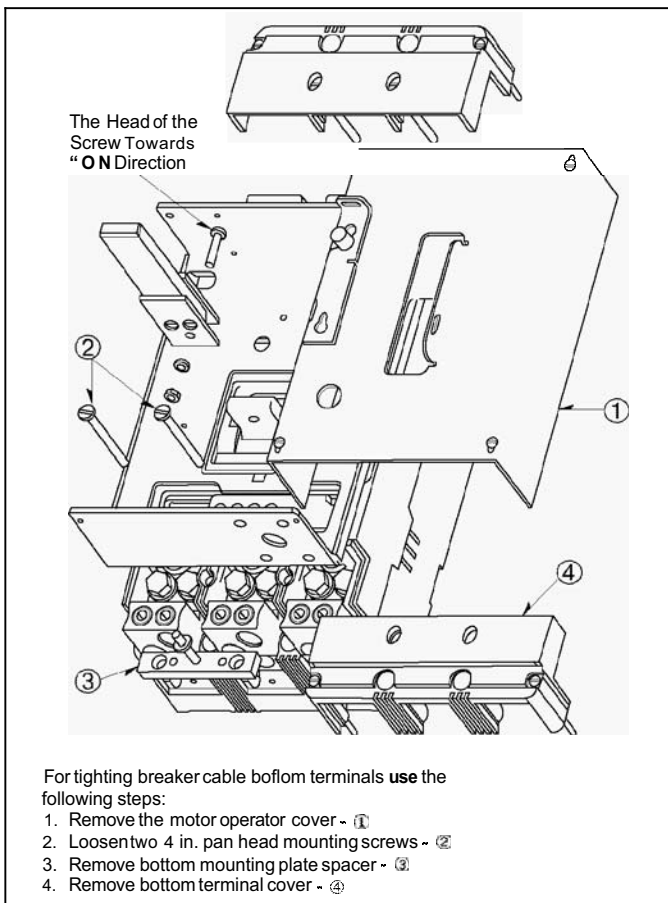

Fig. 2-3. Terminal Tightening Instructions
It is unnecessary to remove a motor operator once installed to gain access to the breaker's cable terminals, Fig. 2-3.
- 2-2. Install circuit breaker handle extension using nuts and screws supplied. (See Fig. 2-3.)
supplied. Put the bottom mounting plate (spacer) between the motor operator and the breaker (Figs. 2-3 (It.03)). The roll pin must be in the base slot and the push nut inside the operator. Use two 4-in. pan head screws. The handle extension must be between the rollers of the bracket assembly, and the motor towards the line end of the breaker (Figs. 2-3, 4-1).